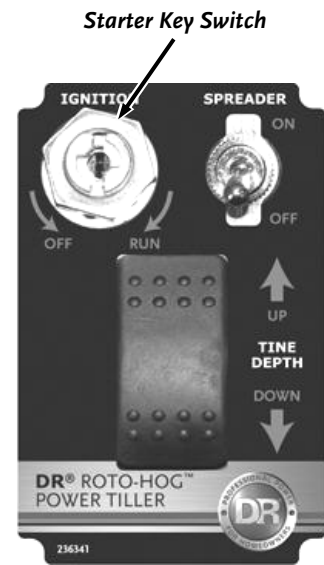

Figure 14
2. Turn the Key (**Figure 14**) all the way clockwise until the Engine starts, then release. The Key will snap back to the RUN position and the Engine will continue to run.